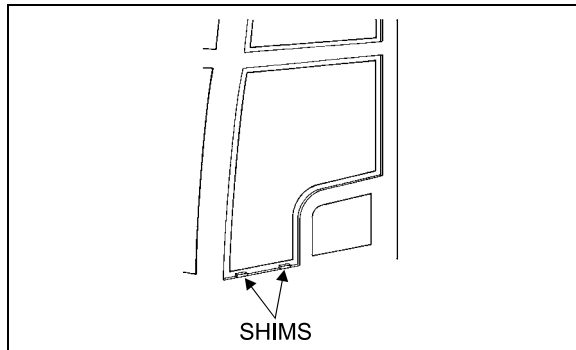

FIGURE 36: ADHESIVE-MOUNTED WINDOW 18079
**Note:** Use small shims to raise the glass in proper position. Shims can be cut from the tremshield tape (Fig. 36).